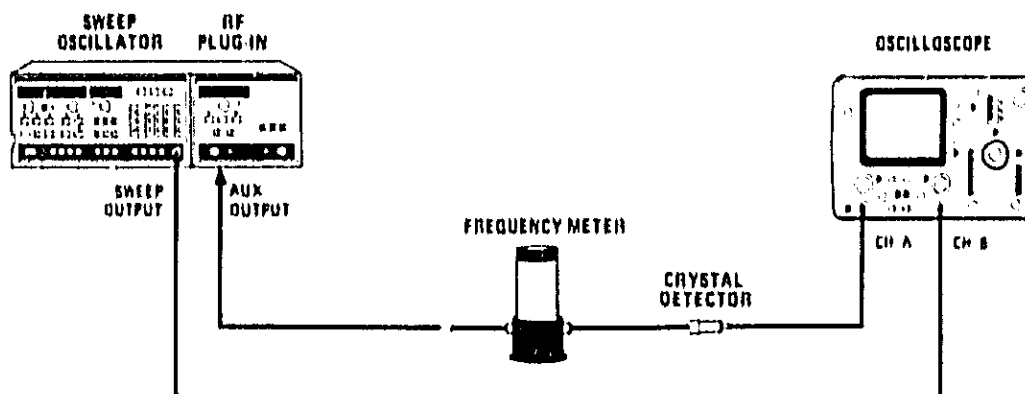

Figure 5-12. YO Retrace Compensation Test Setup
1. Connect the equipment as shown in Figure 5-12 with the oscilloscope connected through the detector and 536A Frequency Meter to the 83590A rear panel AUX OUTPUT. On the 8350A, press INSTR PRESET ; set the RF Blanking on. Allow the equipment to warm up for 1 hour.